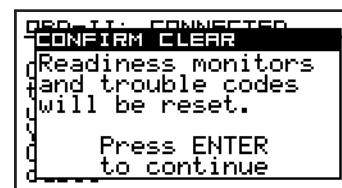

Fig.13
4. Read the confirm screen (Fig. 13) and press ENTER to clear the codes.